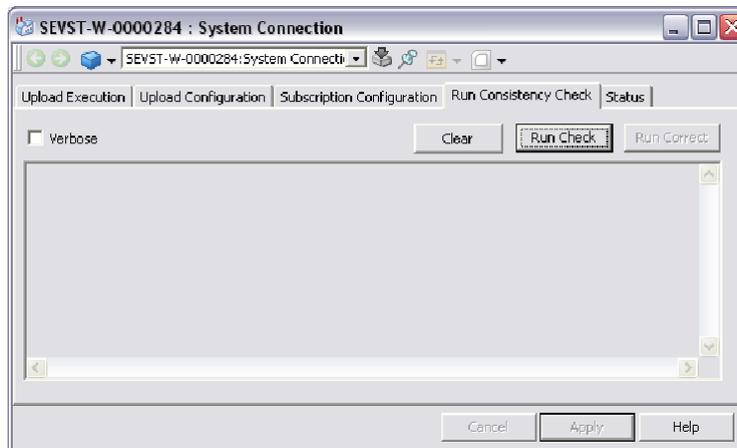

Figure 69. Run Consistency Check Tab
- The System Connection aspect also has a **Run Consistency Check** tab (Figure 69). The consistency check can detect problems, like dangling references in object types, process displays and faceplates, etc.